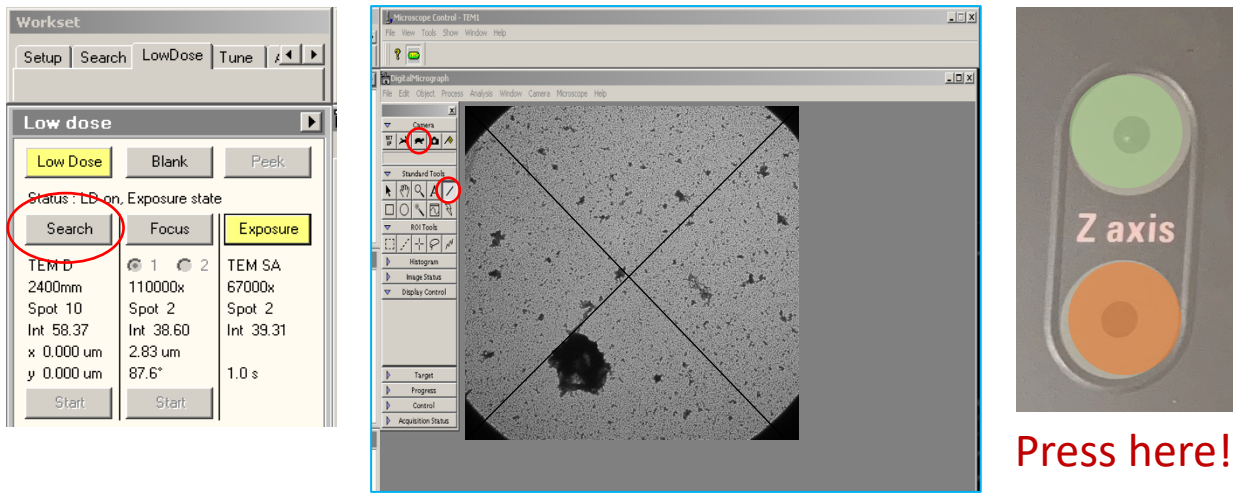

Figure 6: Setting eucentric height - Use the Search Preset
5. Adjust the Z-height (right-hand control pad, Z axis buttons (Figure 6)). As a rule of thumb, the value of the stage for the single-tilt holder is approx. -100 μm . However, be prepared to increase or decrease this value based on which part of the grid you are imaging. Sometimes, your feature of interest might move out from view. In that case, stop the α -wobbler by pressing R1 again, move the feature back to the field of view using the track ball, and restart the process.